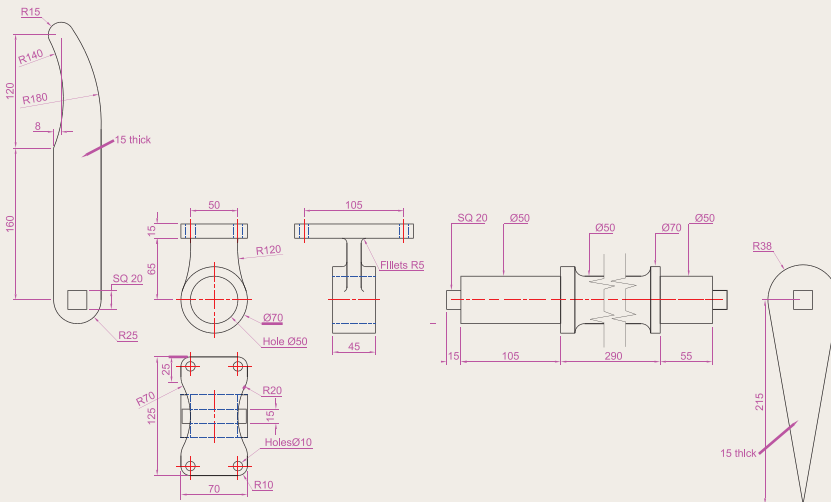
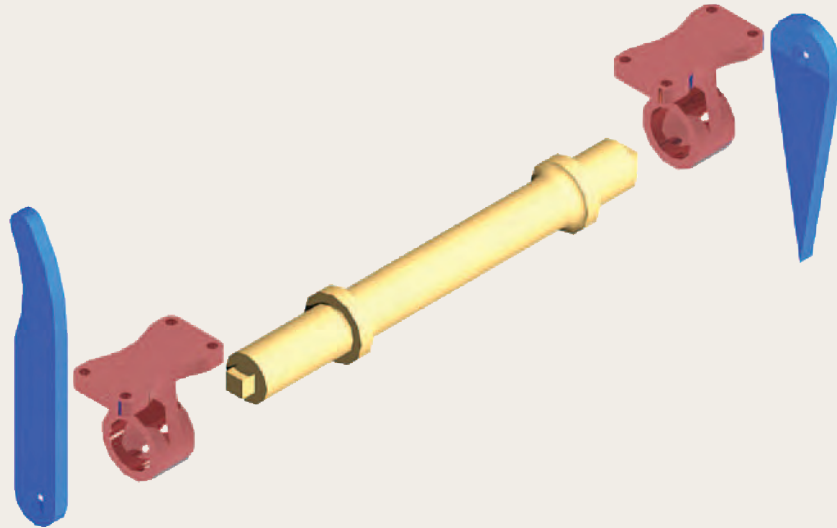

Fig. 19.21 Exercise 5 – details drawing
Fig. 19.22 Exercise 5 – exploded rendered drawing
- Working to the details shown in Fig. 19.21, construct an assembled 3D model, with the parts in their correct positions relative to each other. Then separate the parts as shown in the 3D rendered model drawing shown in Fig. 19.22. When the 3D model is complete add suitable lighting and materials and render the result.